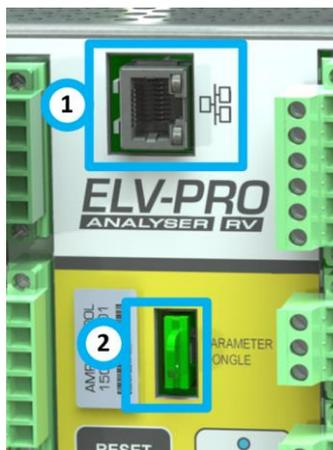

Figure 16: Ethernet and Dongle Connections
The ELV-PRO RV has a dedicated dongle input slot, item 2 of Figure 16. The dongle is keyed and therefore has a specific orientation.
The ELV-PRO RV has an Ethernet socket to allow the ELV-PRO RV to be connected to a network switch or directly to a PC or Ethernet device, see item 1 of Figure 16